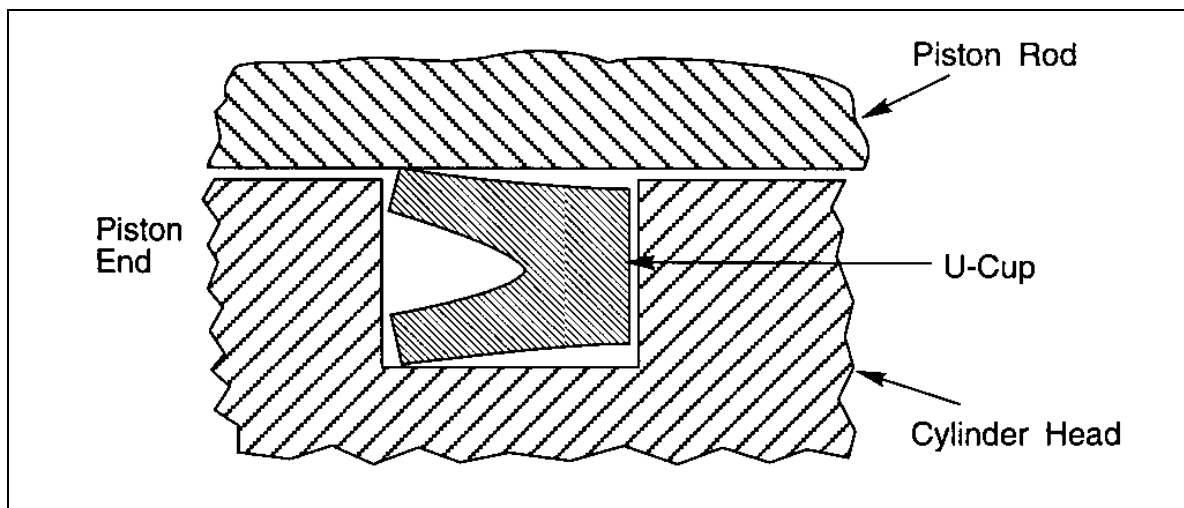

Figure 1—Piston Rod Seal Placement
1. Install the piston rod seal as shown in Figure 1.